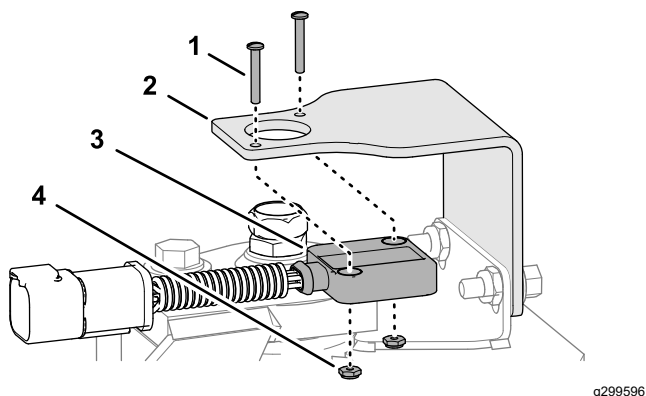

Figure 10
3. Assemble the steering position sensor to the sensor bracket with 2 pan-head screws (#4 x 3/4 inch) and locknuts (#4), and tighten the screws and locknuts (Figure 10).